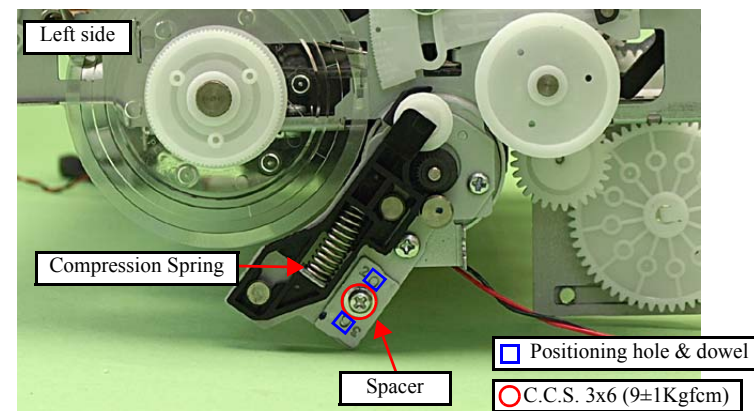
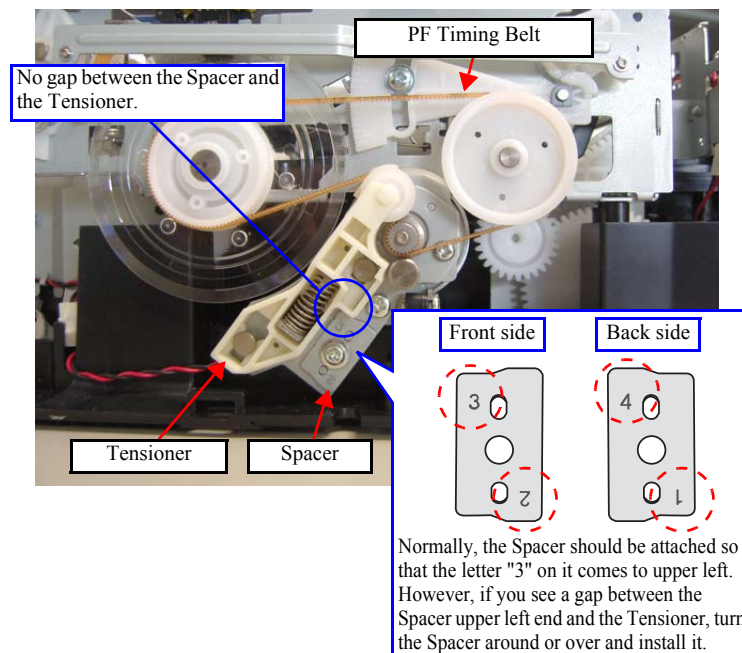

Figure 4-118. Removing the PF Motor (1)
Figure 4-123. Installing the Spacer
2. Remove the screw (x1) that secures the Spacer, and remove the Spacer. (See Fig. 4-118.)
- When installing the Spacer, align the positioning holes (x2) of the Spacer with the dowels (x2) of the Holder. Make sure there is no gap between upper left end of the Spacer and the Tensioner. If there is a gap, turn the Spacer around or over so that another letter (2, 4, or 1) comes to the upper left and install it. (See Fig. 4-118 and Fig. 4-123.)